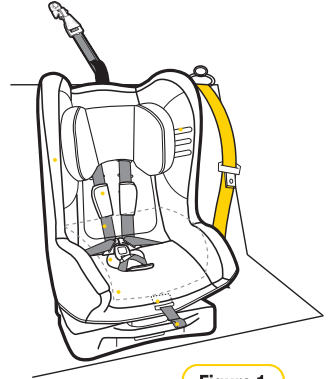

Figure 1
Step 1: Place the restraint in desired upright or reclined position, with the back against the back of the vehicle seat, directly in line with the anchorage point (refer Figure 1).